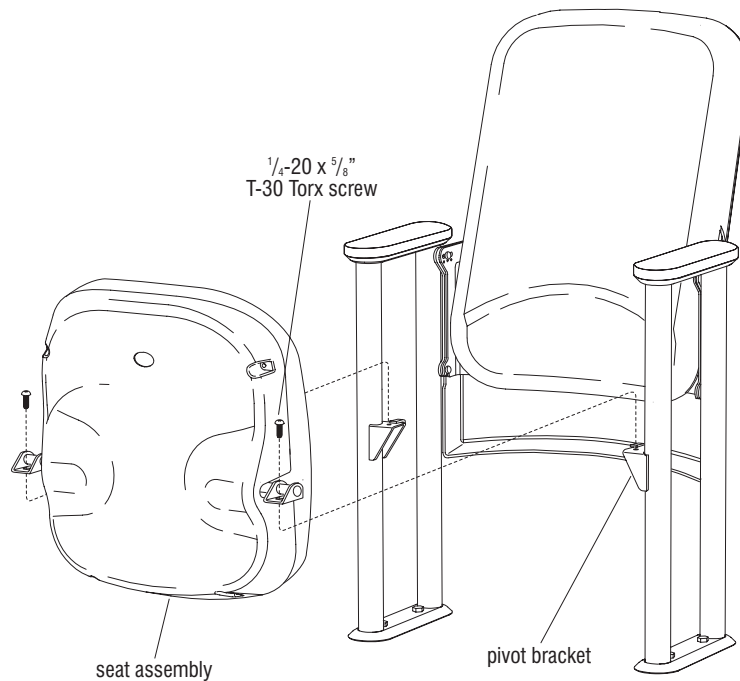

Figure 8
2. Hold the seat assembly with the shroud facing you as shown in the above drawing. Slide the seat into the pivot brackets as shown. Start the 1/4-20 x 5/8" T-30 Torx screws into the pivot brackets. The pivot mounting screws are thread forming screws. Tighten them just tight enough to allow adjustment of the seat's position between the uprights (Figure 8).
1. Remove the pivot screws and lift the seat assembly off the pivot brackets (see figure 8 in the "Seat Attachment" section). Keep seats in the correct order and location for reassembly at a later time.